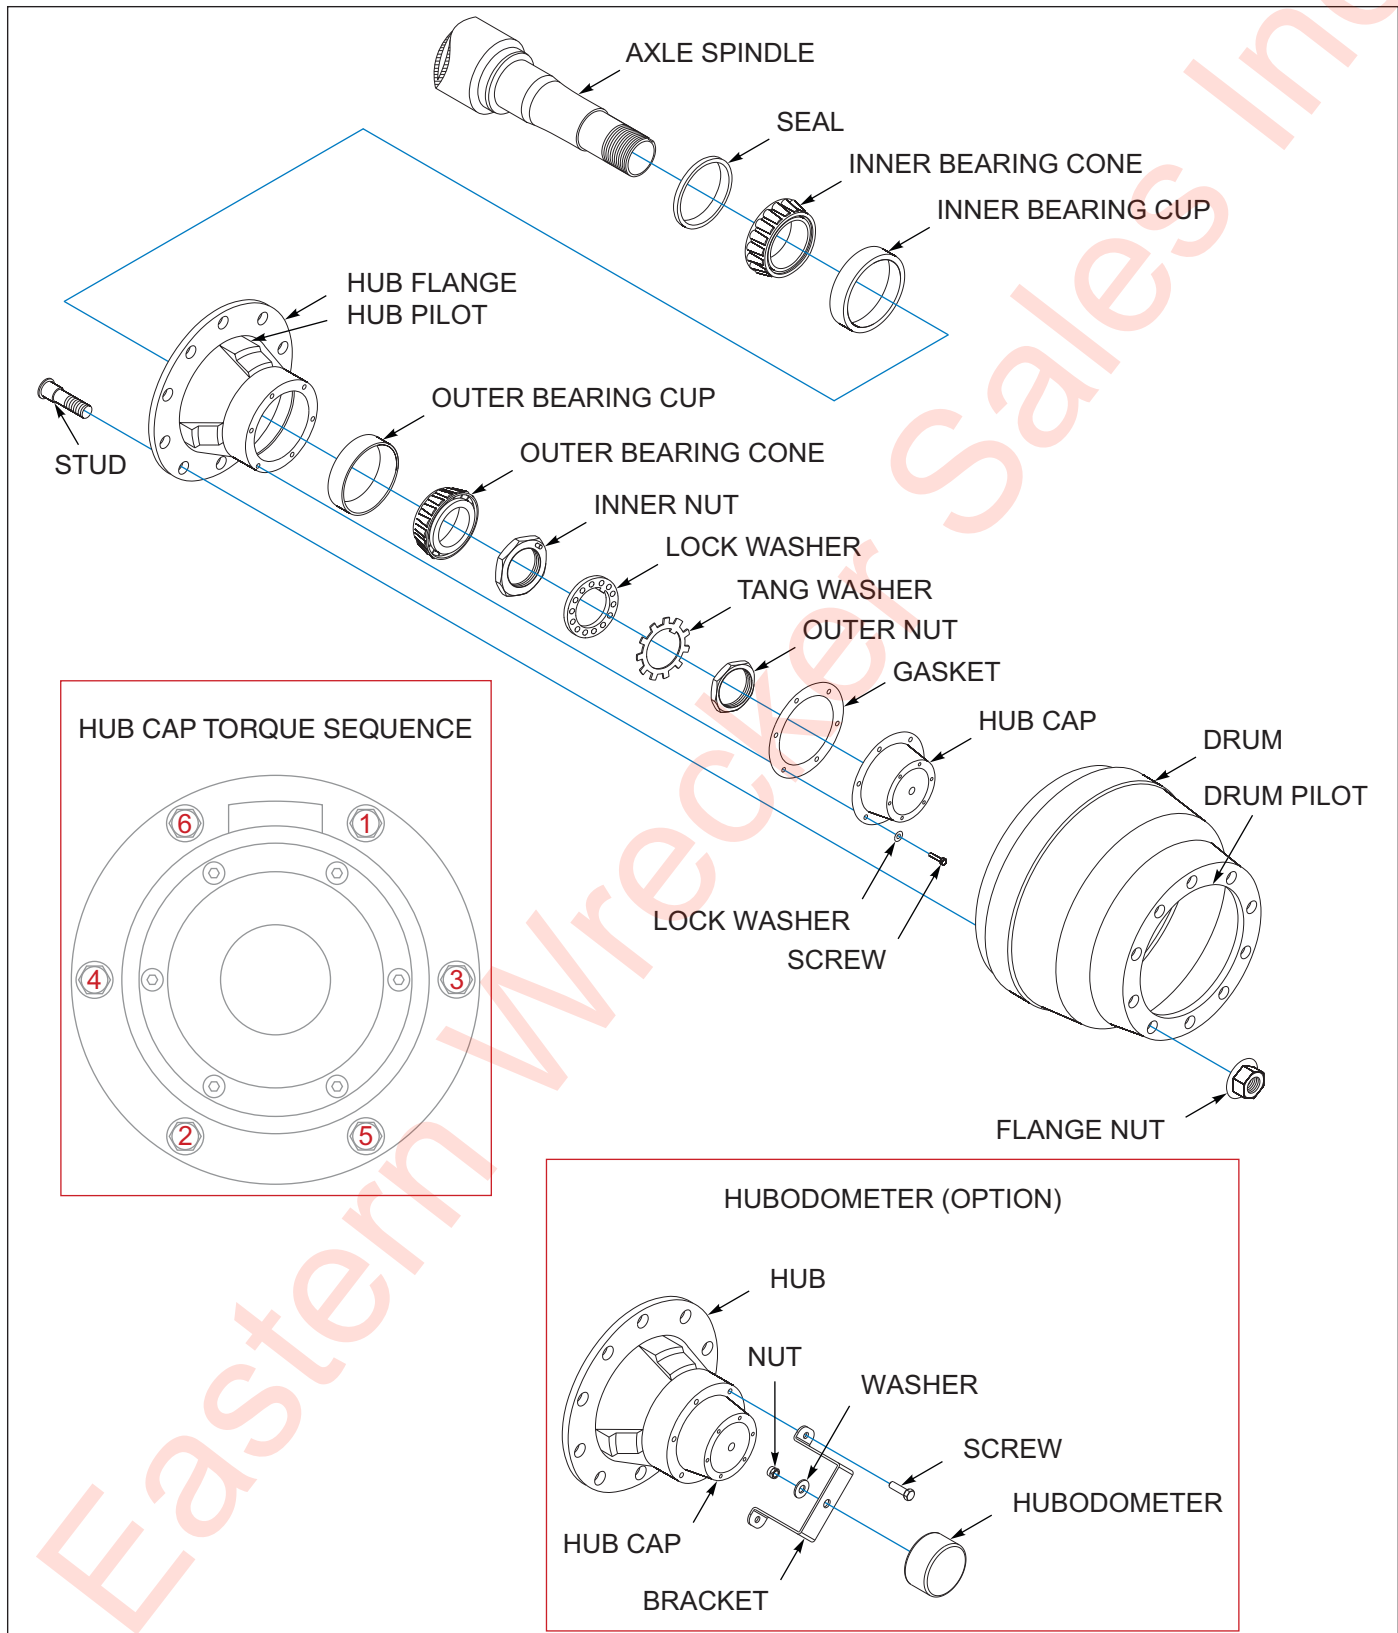

Figure 5-14: Hub Assembly
1. Install the inner and outer bearing cups into the hub. Thoroughly clean hub. *See Figure 5-14.*
6. Install the hub cap and proper gasket. Tighten the cap screws in a star or cross pattern sequence to 10-15 ft-lbs (14-20 Nm) of torque. *See Figure 5-14.*
11. Install the hub cap with a new gasket, torque screws to 10-15 ft-lbs (14-20 Nm) in sequence. *See Figure 5-14.* And fill with oil to the full mark, *See Lubricant Specifications on Page 5-8.*
3. Remove drum assembly. *See Figure 5-14*